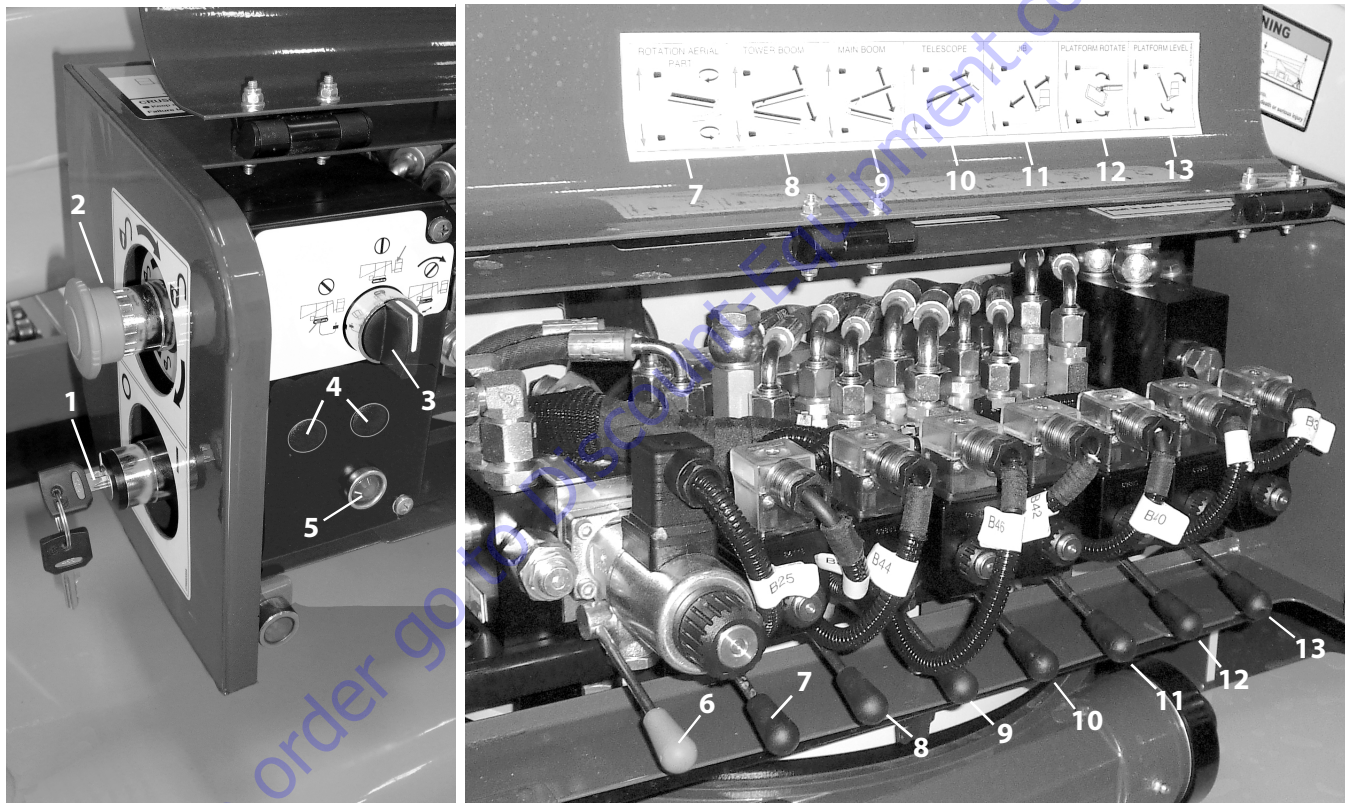

Figure 5-2. Ground Control Station
(See Figure 5-2.)
2. Locate the RED Enable valve lever (*item 6*). The RED Enable valve lever must be held open while operating any of the other boom control valves on the valve distributor.
3. At the ground control valve distributor operate the boom control valves as needed. (*see Figure 5-2*.)
- fully retract main boom (*item 10, Figure 5-2*.)
- fully lower jib (*item 11, Figure 5-2*.)
- fully lower tower boom (*item 8, Figure 5-2*.)
- fully lower main boom (*item 9, Figure 5-2*.)
2. Lift the function enable lever UP and hold (item 6 - Figure 5-2.), While pumping the hand pump (item 4) and activating the swing control lever (item 7 - Figure 5-2.) in the desired direction of travel, until the turntable is aligned with the chassis.
Lift the function enable lever UP and hold (*item 6 - Figure 5-2.*). While pumping the hand pump, activate telescope function lever (*item 7, Figure 5-2.*) in the appropriate direction to retract the main boom.
Lift the function enable lever UP and hold (*item 6 - Figure 5-2.*), while pumping the handpump, activate the jib lift function lever (*item 8, Figure 5-2.*) in the appropriate direction to lower the jib.
Lift the function enable lever UP and hold (*item 6 - Figure 5-2.*), while pumping the handpump, activate the tower boom lift function lever (*item 5, Figure 5-2.*) in the appropriate direction to lower the tower boom.
Lift the function enable lever UP and hold (*item 6 - Figure 5-2.*), while pumping the handpump, activate the main boom lift function lever (*item 6, Figure 5-2.*) in the appropriate direction to lower the main boom.
Lift the function enable lever UP and hold (*item 6 - Figure 5-2.*), while pumping the handpump, activate the appropriate platform rotate function lever (*item 12, Figure 5-2.*) to rotate the platform.
Lift the function enable lever UP and hold (*item 6 - Figure 5-2.*), while pumping the handpump, activate the appropriate platform level function lever (*item 13, Figure 5-2.*) to level the platform.